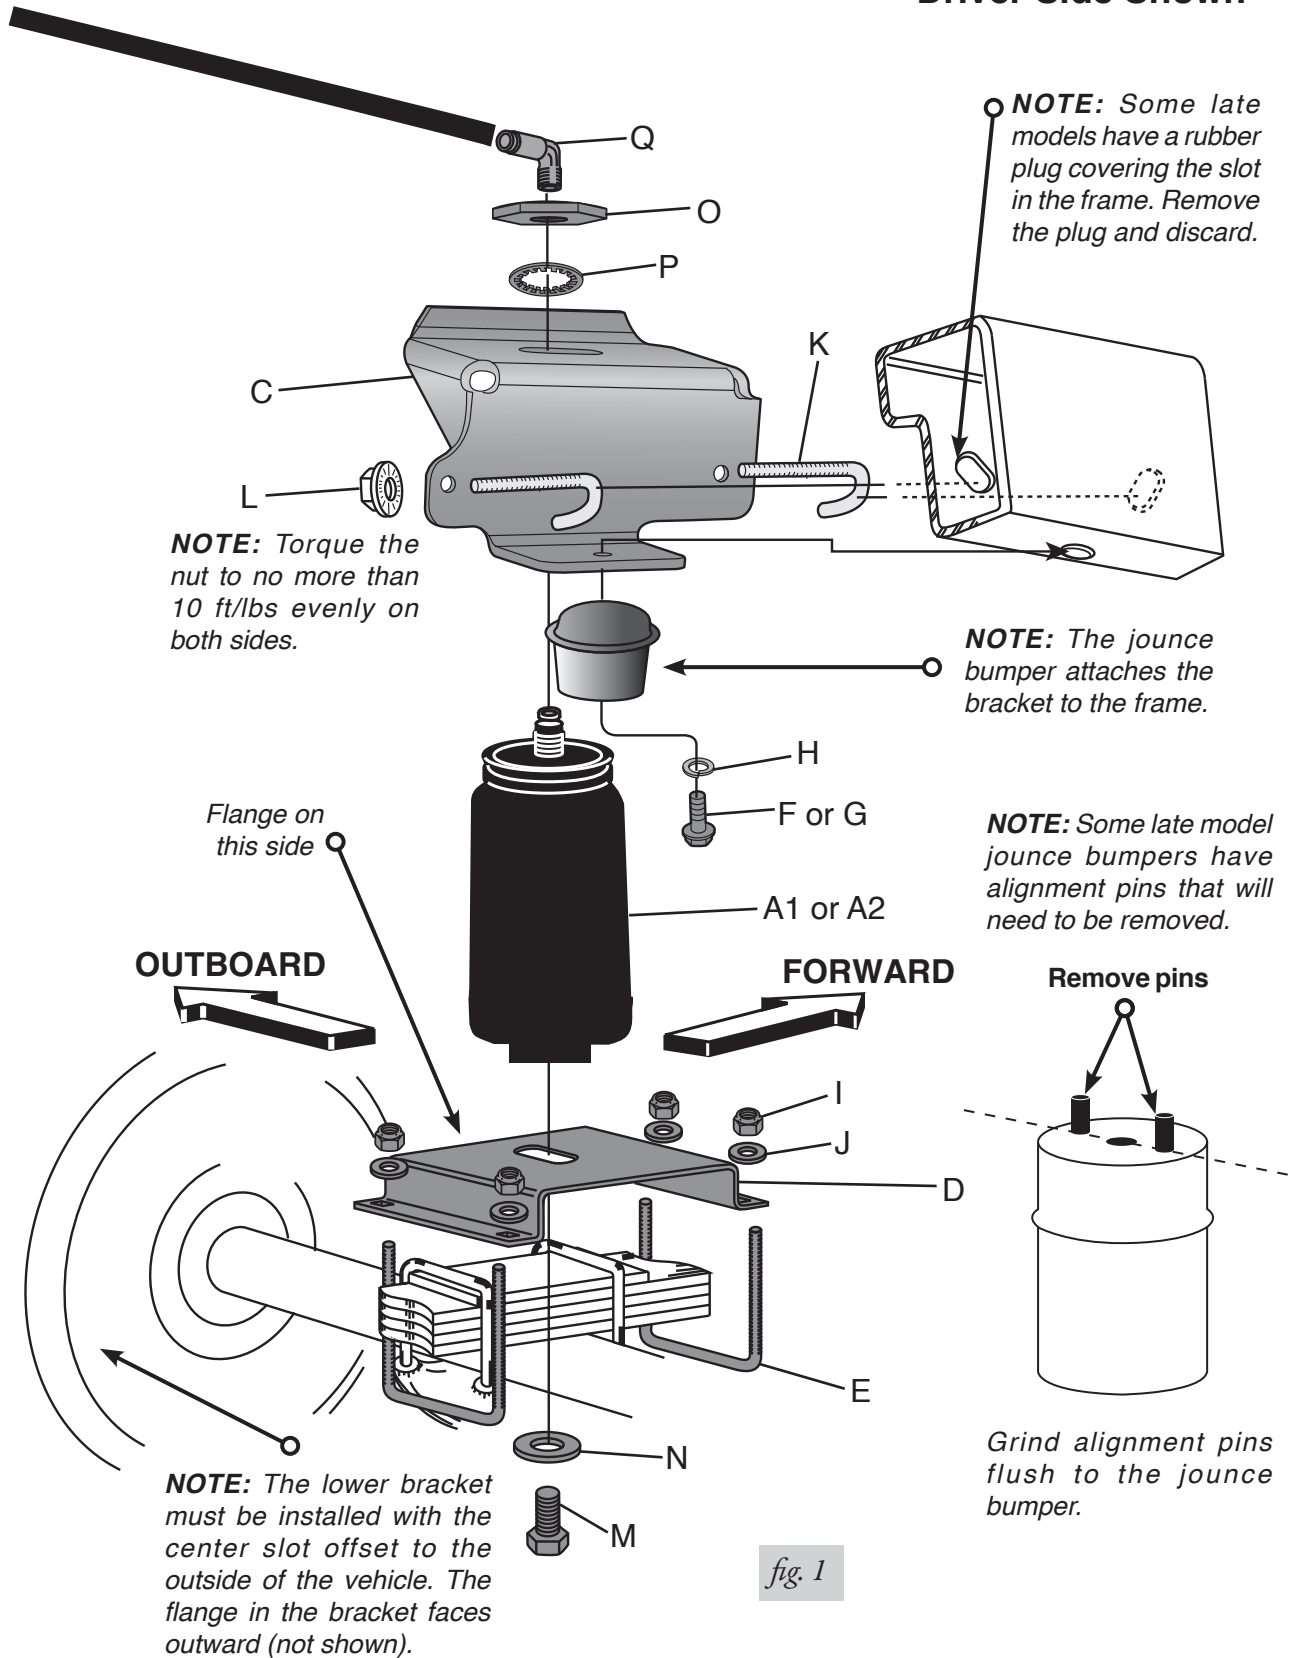

fig. 1
1. Remove the stock jounce bumper from under the frame (fig. 1).
Some late model jounce bumpers have alignment pins that will need to be removed (fig. 1). Grind pins flush to the jounce bumper once removed.
7. Attach the air spring (A1 or A2) to the lower bracket (D) with the 1/2" flat washer (N) and lower mounting bolt (M). Leave loose for later adjustment.
8. Set the lower bracket on the leaf spring above the axle and attach using the supplied U-bolts (E), 3/8" flat washers (J), and 3/8" nylon lock nuts (I) (fig. 1).
10. Install the 3/4" nylon lock nut (O) and lock washer (P) onto the upper threaded post of the air spring. Leave loose for final adjustment.